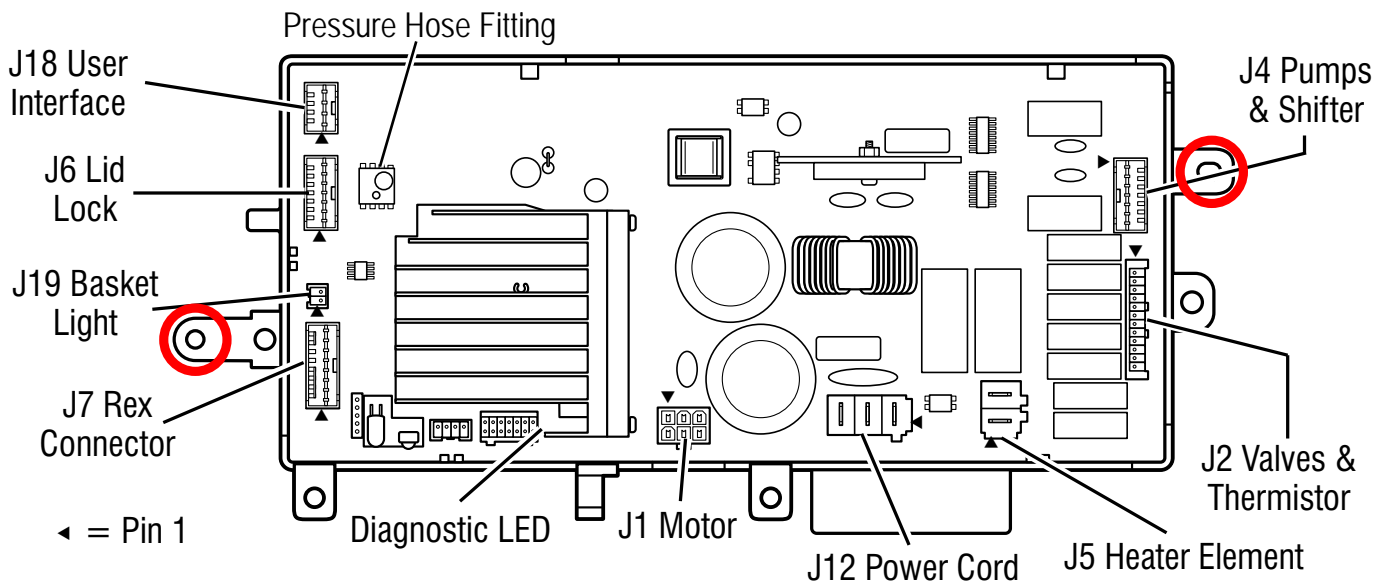

Figure 1
4. Remove pressure hose from Main Control (see Figure 1).
5. Disconnect all connectors from the Main Control (see Figure 1).
6. Using a 1/4" nut driver, remove the two (2) hex-head screws (locations circled in Figure 1) securing the main control to the top panel of the washer. Remove board.